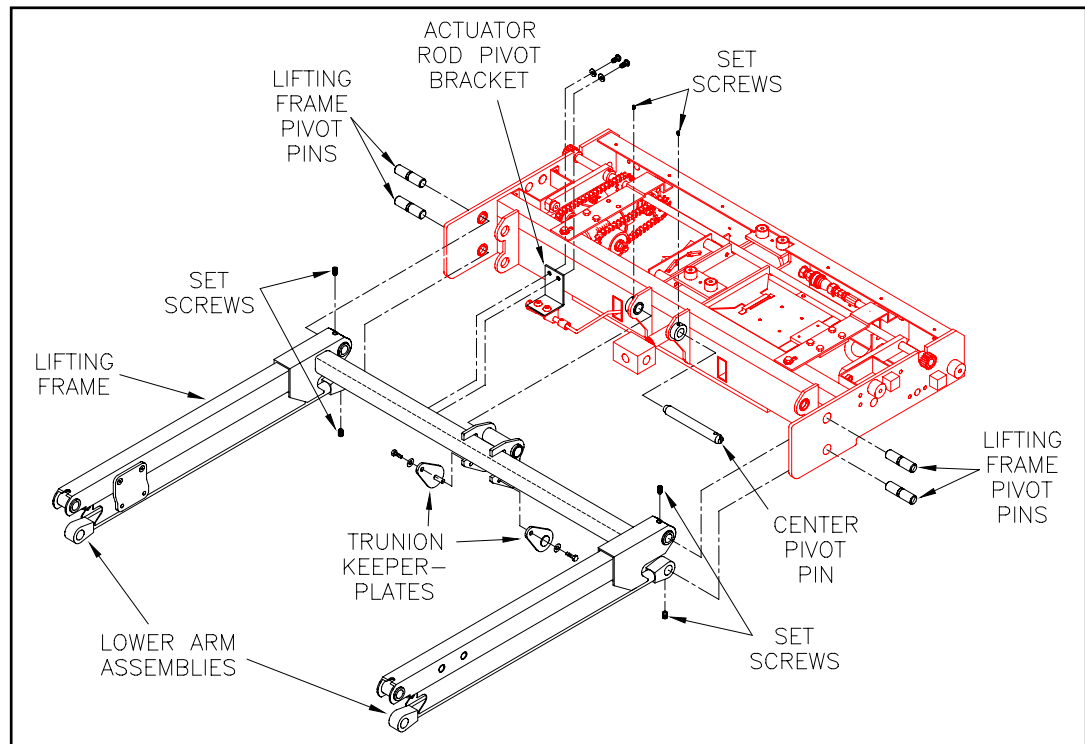

FIGURE 4-13: LIFTING FRAME REFERENCE DIAGRAM
- 3) Refer to **Figure 4-13**. Remove the set screws that secure the lifting frame and center pivot pins to the carriage.